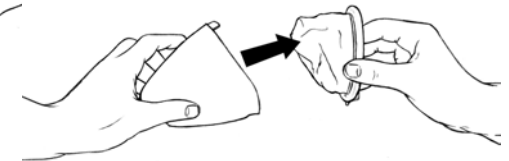

Fig. 2
2. Pull out the Dust Cup Filter (8), (fig. 2).
3. Empty the dust from the Dust Cup Filter (8).
4. Rinse the Dust Cup Filter (8) in cold water, and then wait until it dries completely before replacing it into the Dust Cup (container) (10).
5. Place the Dust Cup Filter (8) carefully into the Dust Cup (container) (10).
6. Attach the Dust Cup (container) (10) to the Hand Vacuum.